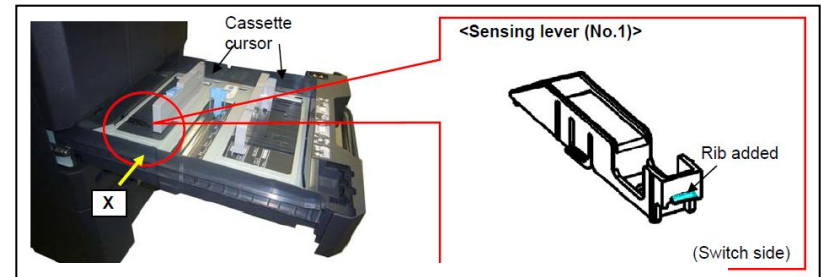

Fig. 3 Item need to be replaced on SB:2LC-0023
d. After performing above “b” and “c”, the problem is not solved, replace with the modification parts mentioning on the service bulletin No.2LC-0023(B287) (Fig.3)